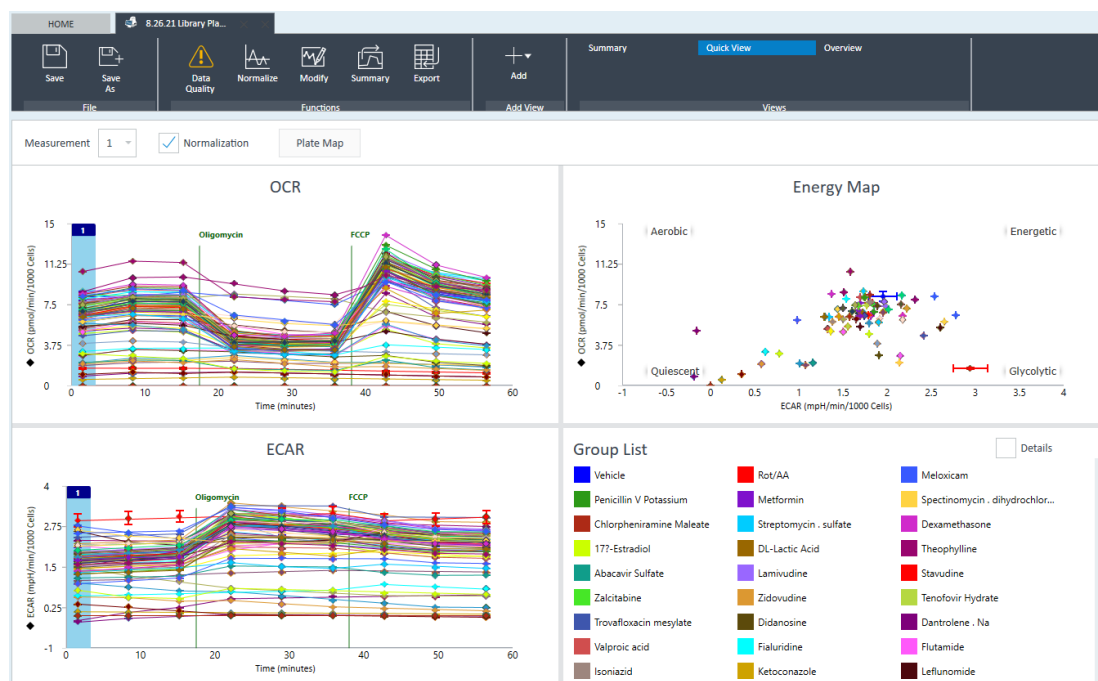

Figure 90. Quick view
**Quick View** is the default analysis view displayed when opening a new assay result file. Quick view simultaneously displays a kinetic graph of OCR vs Time, ECAR vs Time, and a scatter plot of OCR vs. ECAR. (See Figure 90.)